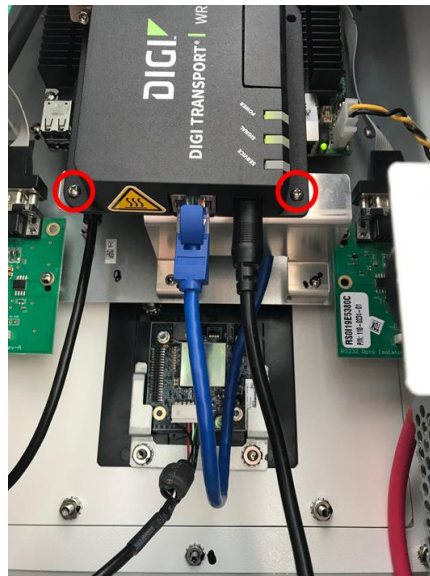

Figure 1.2
- 1.2. Remove the two (2) screws holding the modem to the mounting bracket as shown in **Figure 1.2**.